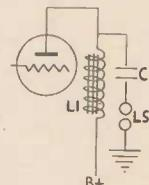

FIG. 2.
**A**udio Frequency chokes act as a barrier to audio frequencies in the same way as an R.F. choke does to the radio frequencies. As it deals with low frequencies, the wire can be wound over an iron core in order to get an increased inductance without the loss which would follow were this done with R.F. chokes. Its most usual application is to choke filter output circuits (fig. 2) and in this case it is connected so that